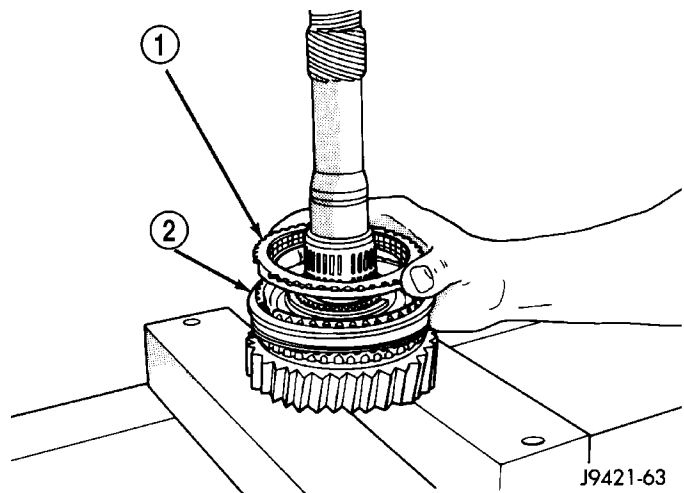

Fig. 59 FIFTH GEAR SYNCHRO RING
(7) Install fifth gear synchro ring in synchro hub and sleeve (Fig. 59).